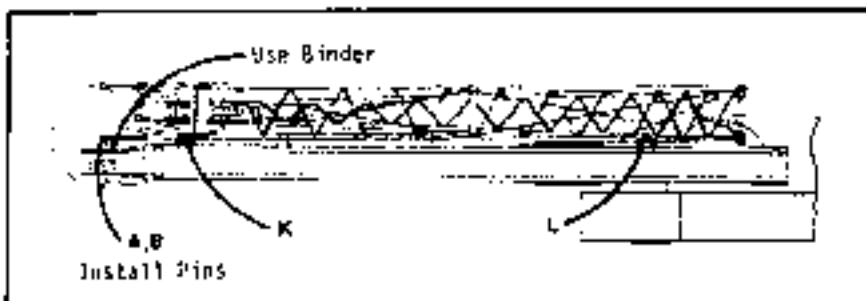

Fig. 4-19
- Step 2: Refer to Fig. 4-19. Use binder provided on boom head to line up pin holes. Install pins and keepers at "A" and "B" to connect the jib to boom. Pins are stored on the folding adaptor.